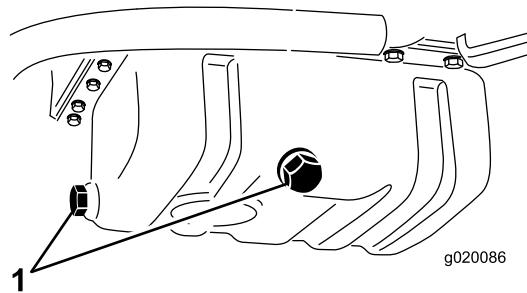

Figure 52
- Remove either drain plug (Figure 52) and let the oil flow into a drain pan. When the oil stops flowing, install the drain plug.